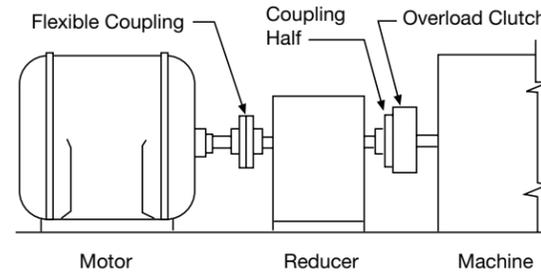

Figure 7
The clutch should always be located as close as possible to the source of an overload condition. Figures 7 through 10 indicate both preferred and not preferred locations for mounting a ORC Series, Model F Overload Release Clutch.
- Figure 7 shows the preferred location for mounting in a direct drive application. The clutch is mounted on the low speed side of the reducer, and transmits power from its housing, through its rotor to the driven shaft.